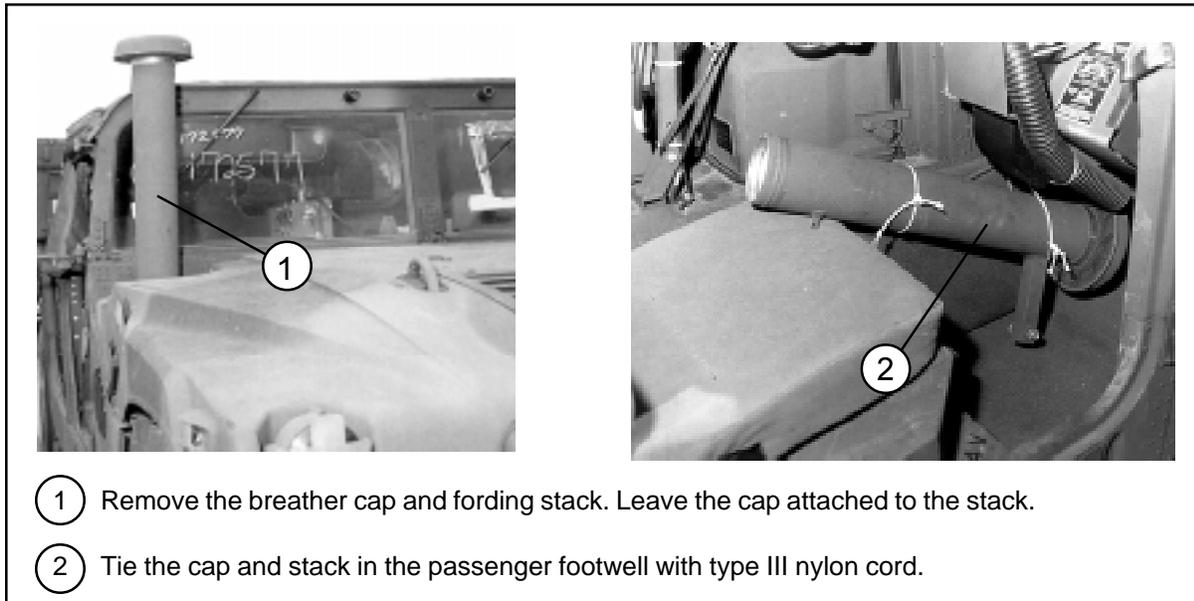

Figure 4-7. Fording Kit Removed and Stowed
- e.* Remove the breather cap and fording stack and stow them in the truck as shown in Figure 4-7.